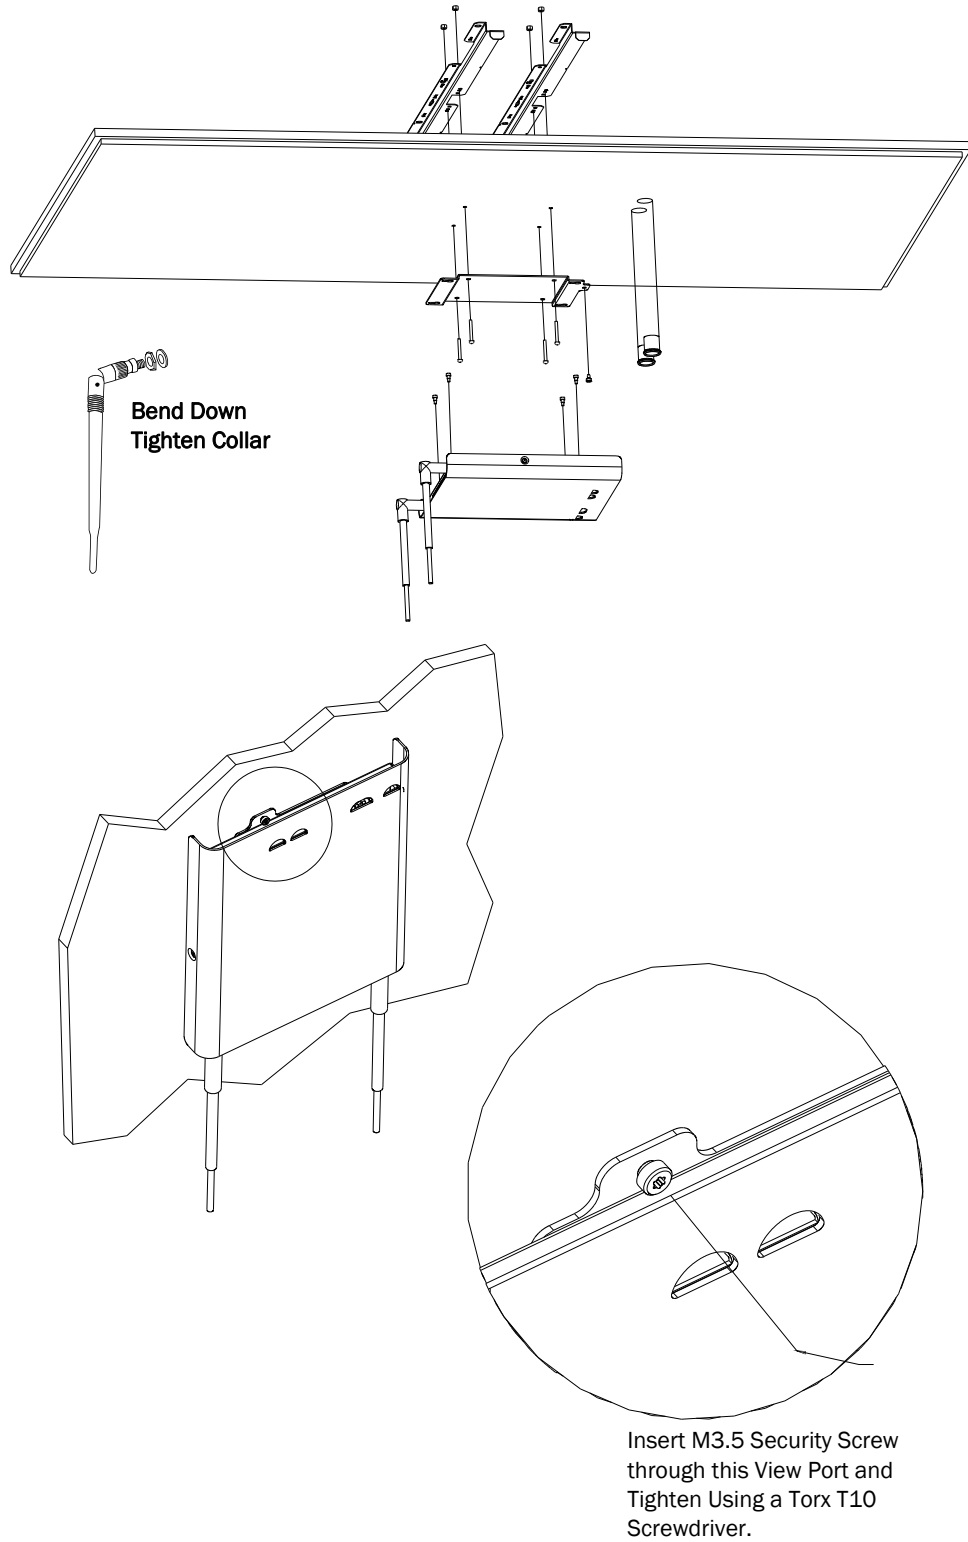

Figure 2-15: Mounting the Core AP Below a Ceiling Tile (Quick Release)
8. Insert the four (4) M3 .5 x 0.6 x 30mm screws into the AP wall plate, through the tile, and into the mating holes in the mounting rails on top of the tile. Hand tighten the four locking hex nuts onto the screws, and then torque-tighten each nut to 10-inch lbs (#1 Pozidrive).
9. Using a 5/64-inch (2 mm) Allen (i.e., hexagonal) wrench, secure the four supplied M3 X 0.5 hex-head shoulder screws to the back of the Core AP as shown in Figure 2-15. Torque-tighten each shoulder screw to 8-inch lbs.
11. Using a Torx T10 screw driver, secure the Core AP to the wall plate by screwing the supplied M3 0.5 X 0.6 T-10 Torx Head security screw into the PEM nut in the wall plate as shown in Figure 2-15. Torque-tighten the screw to 10-inch lbs. Note that this safety screw is used to prevent the Core AP from sliding out of the wall plate.